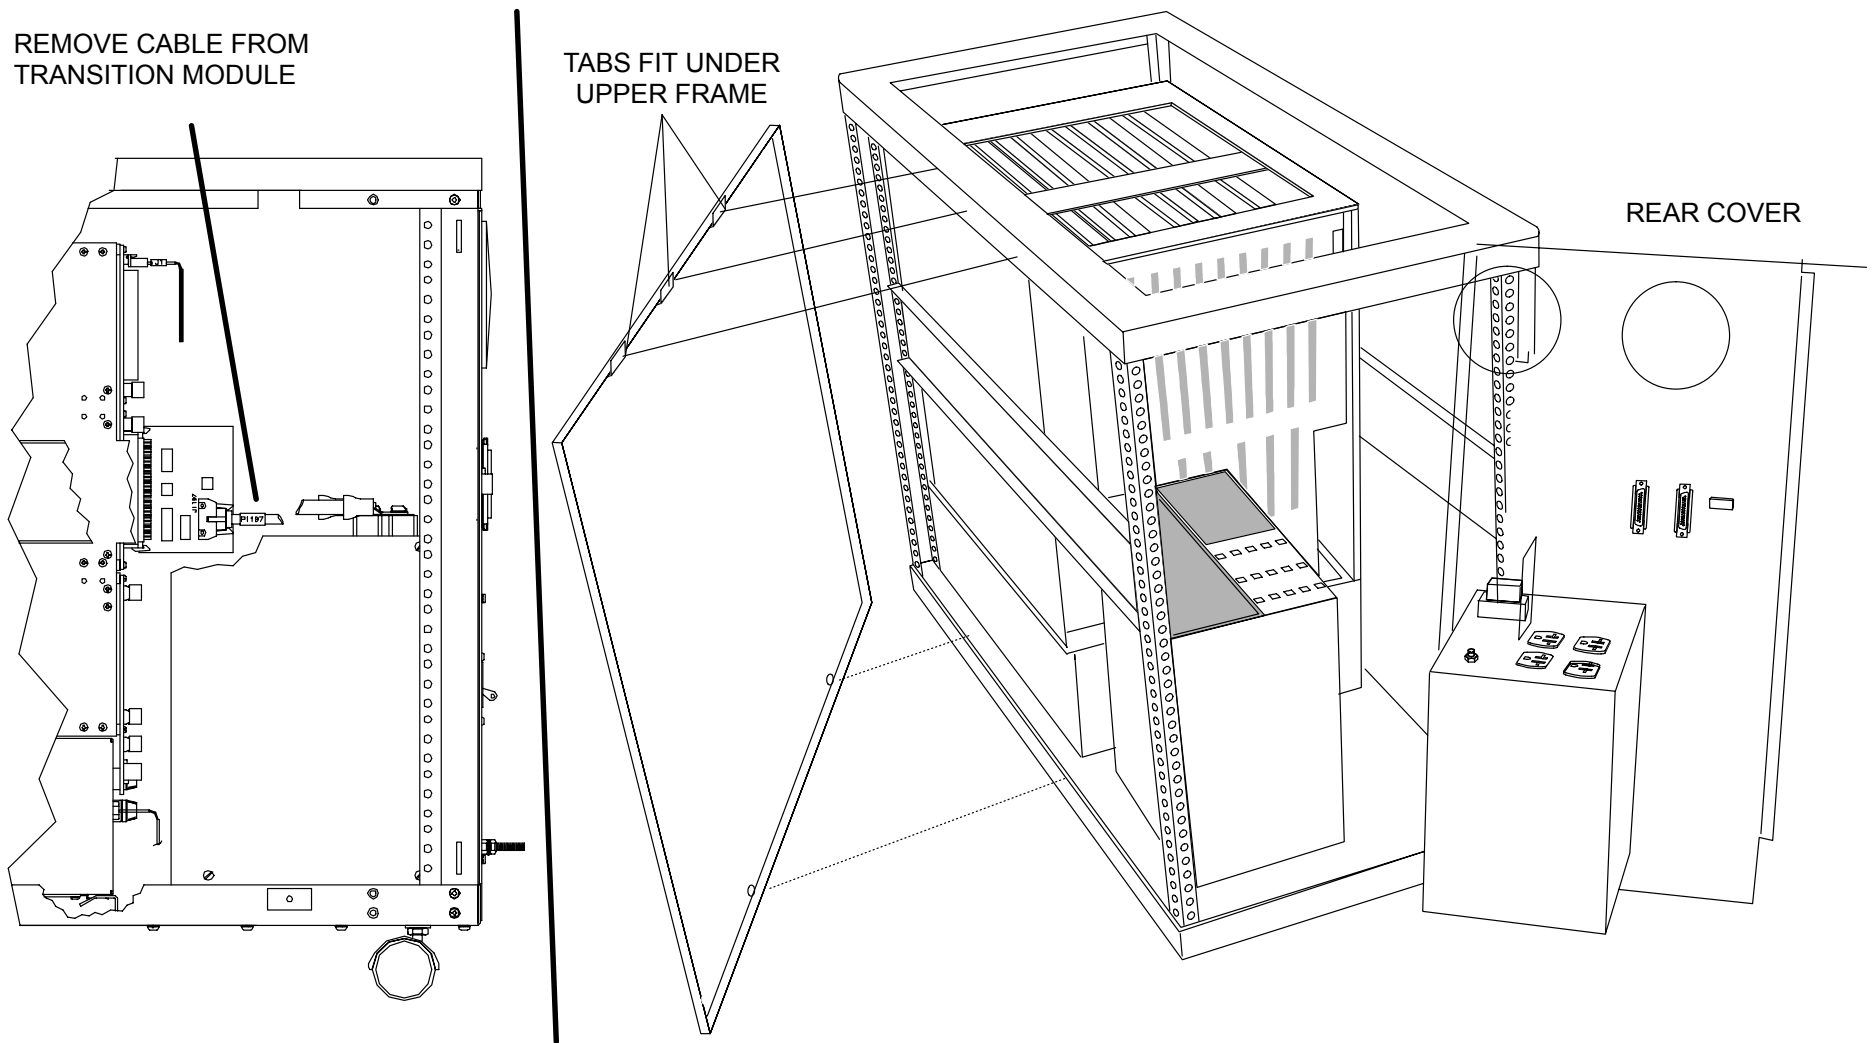
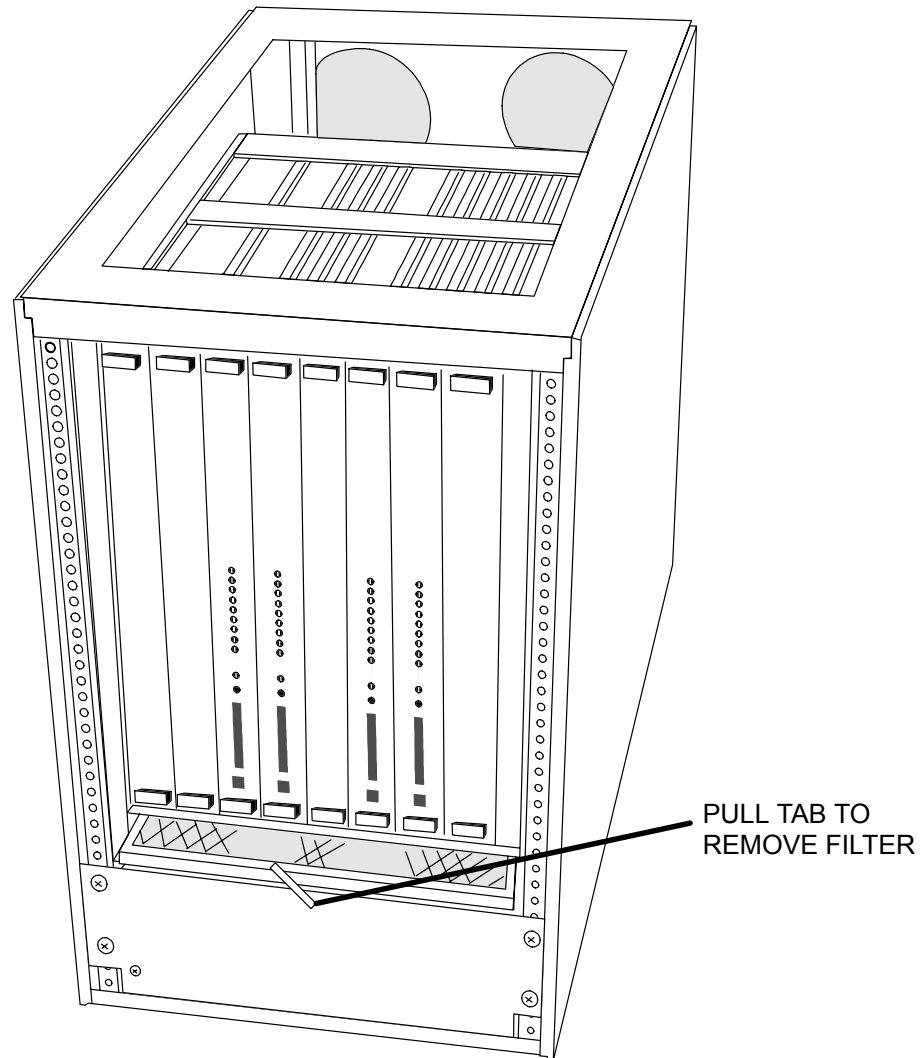

FIGURE 329 AcQImage Cabinet – Top, Side, Rear Covers Removed / Transition Module
FIGURE 330 AcQImage Cabinet – Inside Covers, Fan Filter Removal
2. Lift up slightly from the bottom and pull the bottom of the cover toward you. The top will follow after the small tabs have cleared. Refer to Figure 329.
2. While holding the large brass ground connector bolt, slide the cover down a little and pull outward from the bottom. Disconnect the cable that leads to the Transition Module. Refer to Figure 330. Set the cover aside as seen in Figure 329.
1. Grasp the tab on the air filter and slide out to remove. Either replace or wash the filter. Ensure filter is dry before sliding back into the AcQImage cabinet. Refer to Figure 330. (Internal cover does not have to be removed to service the air filter.)